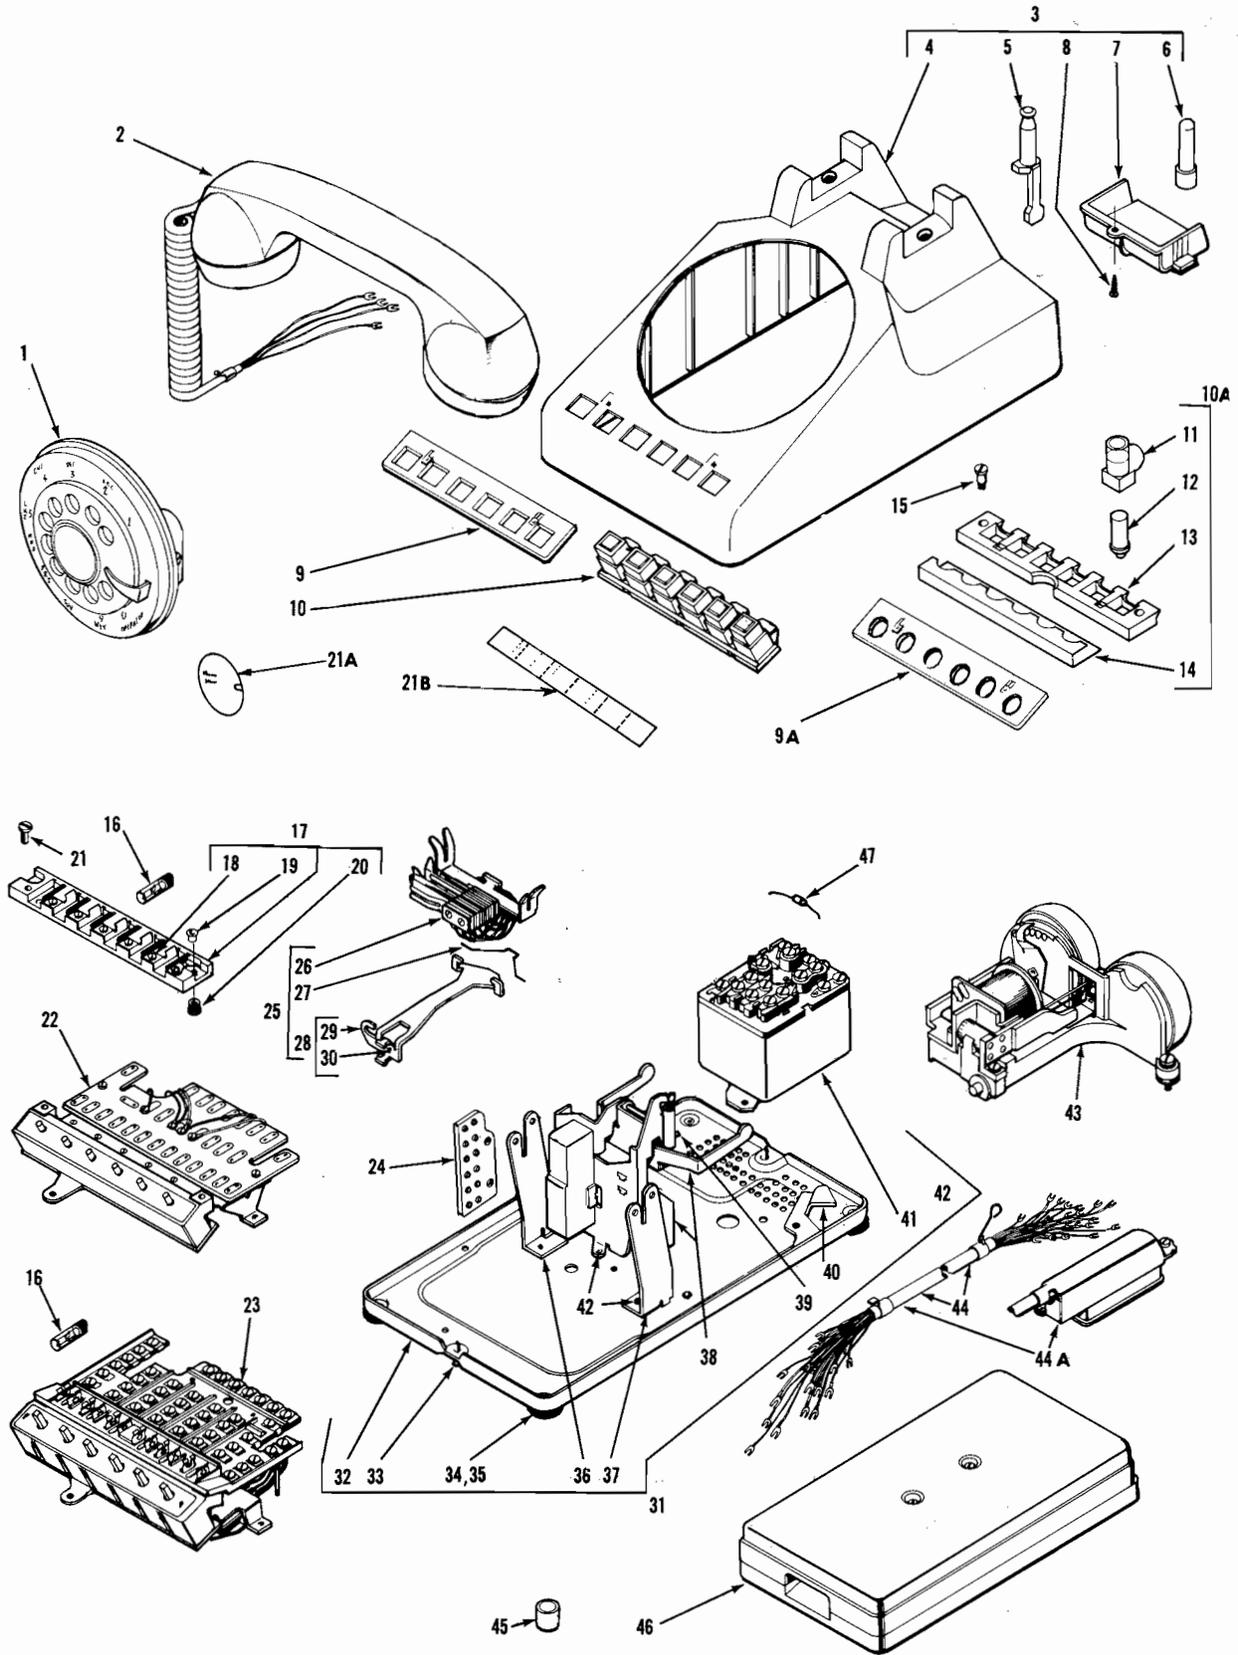

Figure 2. K-564/K-565 Key Telephones, Exploded View
The Connecting Block Assembly (46, figure 2) is not included with the telephone and must be ordered separately when required.
When used in a K-1A1 or K-1A2 Key System, additional wiring, including the diode (47, figure 2) is required for a station busy lamp. This must also be ordered separately.
- (a) REMOVAL. Loosen Cabinet Lock Screws (33, figure 2) and remove Housing.